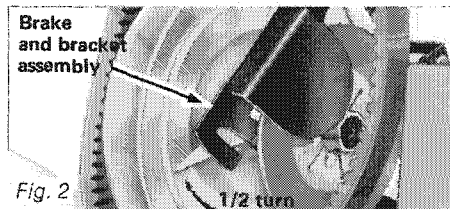

Fig. 2
3. Remove the two (2) bolts holding the lower disc brake bracket to the frame. Pivot the brake bracket assembly half a turn.
5. Slip the belt out from the drive pulley (centrifugal governor) and remove from vehicle by passing it under the driven pulley and disc brake assembly. (See Fig. 2).